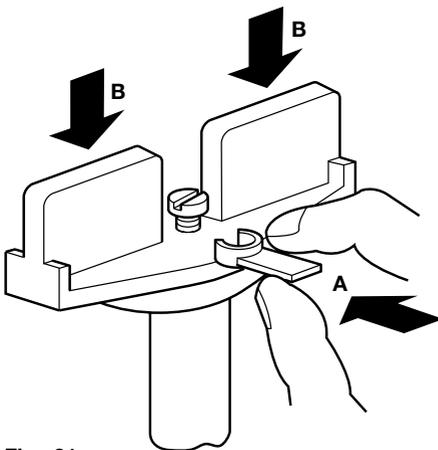

Fig. 31
5. Push the spring handle (**B**, Figure 31) down to lock it in place.
6. When the handle is locked in place insert the locking piece (**A**, Figure 31) to secure the handle.